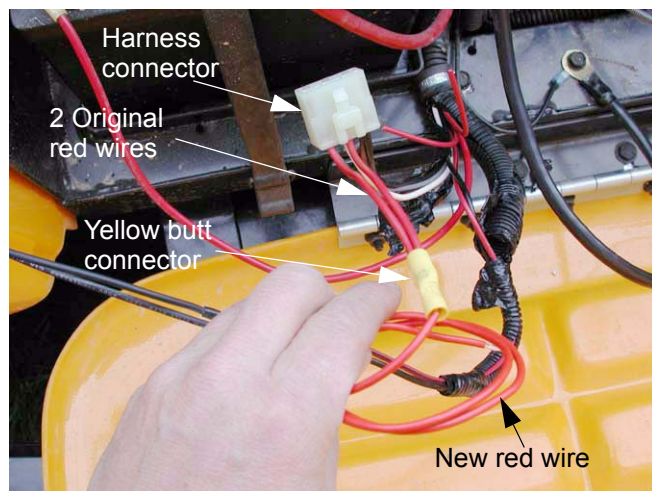

Figure 1.10
- 1.10. Fold the stripped end back on itself, and crimp it securely into the other end of the yellow butt connector. See Figure 1.10.